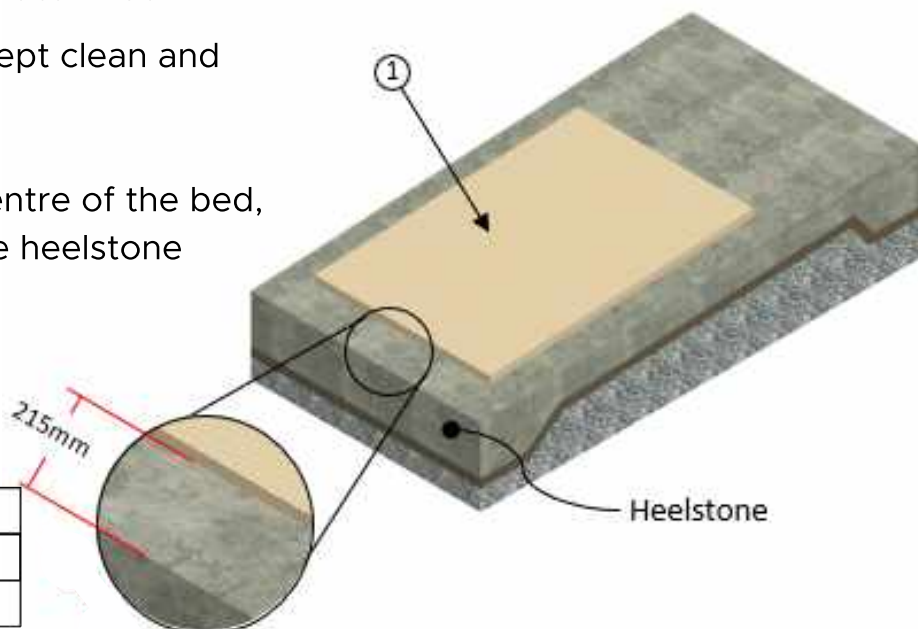

Figure 1
- Place the Latex Foam in the centre of the bed, approximately 215mm from the heelstone (Figure 1).